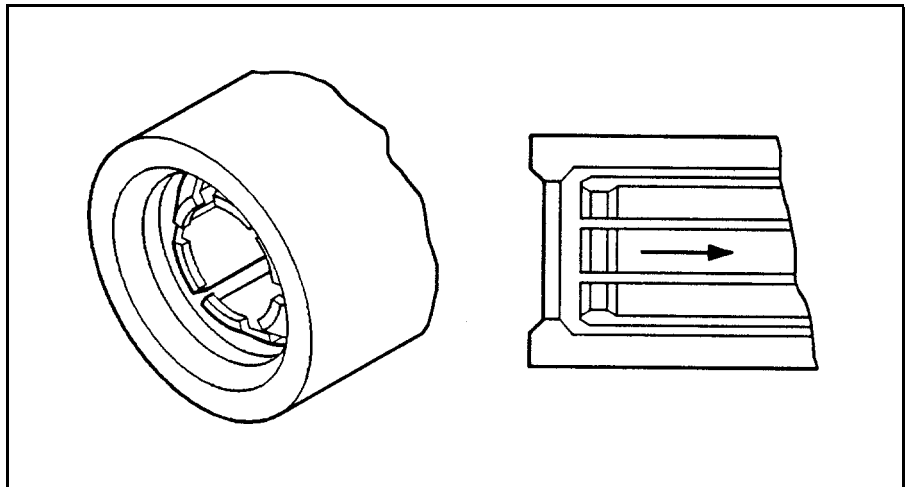

Figure 2-3. Inner Contact Pushed Inside
- The inner contact is pushed inside the center conductor and will not make contact with the mating connector’s male pin (see Figure 2-3).